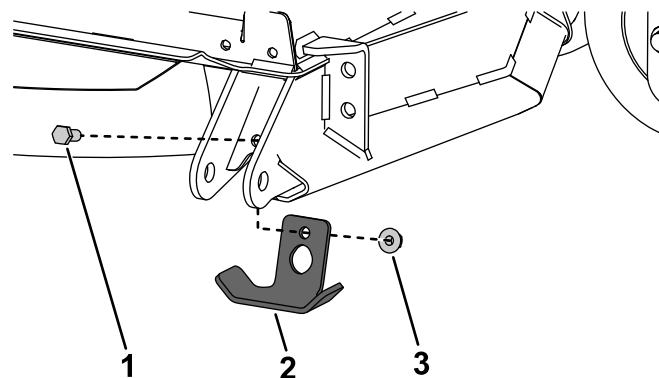

Figure 9
2. Remove the fasteners that secure the existing skid plate to the cutting unit (Figure 9).